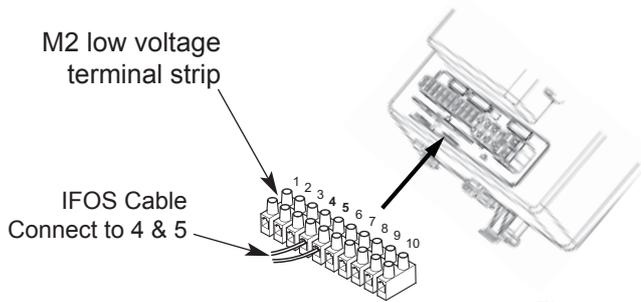

Fig. 24
3. Connect the IFOS cable to 4 & 5 on the M2 low voltage 10 way terminal strip (Fig. 24) then refit the cover. There is no polarity.